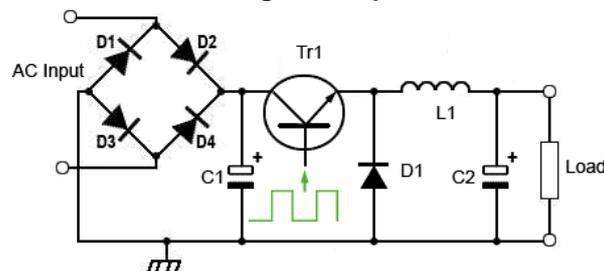

Fig 3.5.1
**Refer to Fig 3.5.1. Which of the following components is not active during the ON period of the switching waveform?**